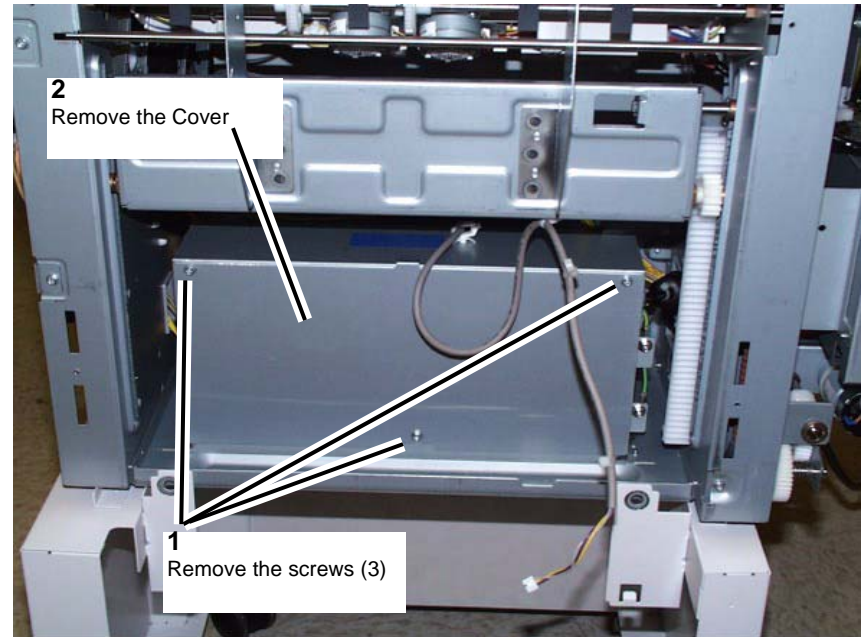

Figure 8 Removing the LVPS housing cover
- Remove the screws (3) from Low Voltage Power Supply housing cover. (Figure 8)